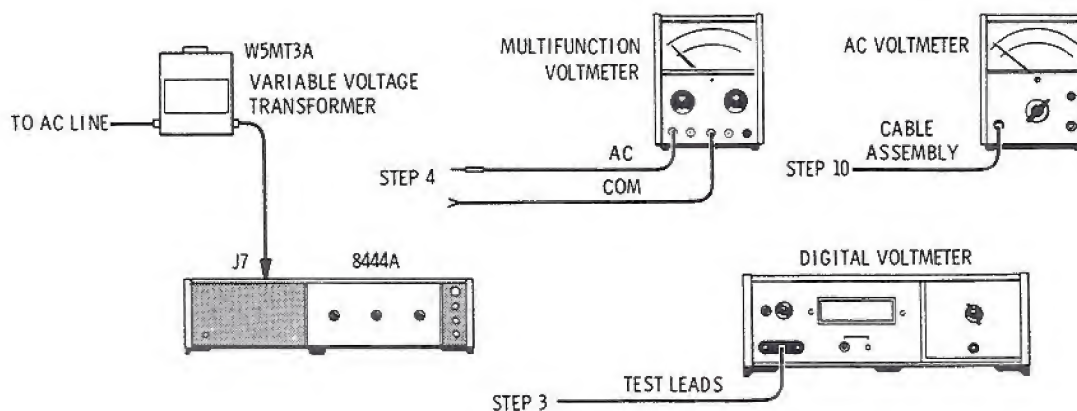

Figure 5-1. Power Supply Check and Adjustment Test Setup
1. Connect test setup as indicated in Figure 5-1 with Tracking Generator line power off.